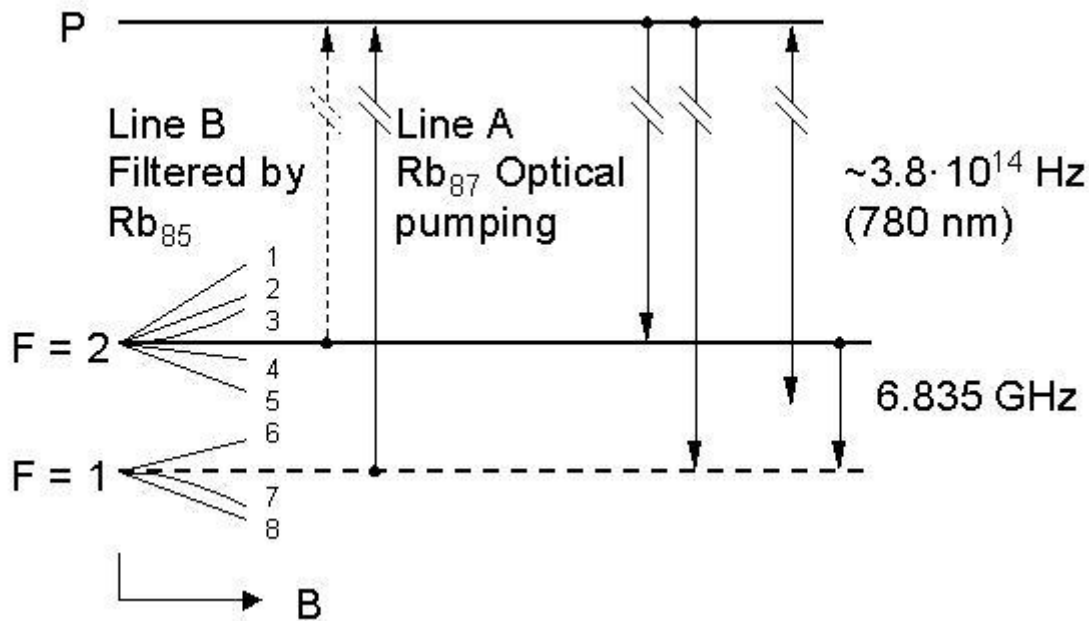

Fig. 2-1: Energy levels and transitions in Rb87 atoms during SRO operation.
In order to detect the clock transition between these two levels, the atoms need to be manipulated in such a way that most of them occur in only one level. This is done by optical pumping via a higher lying state (P). Fig. 2-1 visualises the atomic energy levels and transitions involved in the optical pumping process.